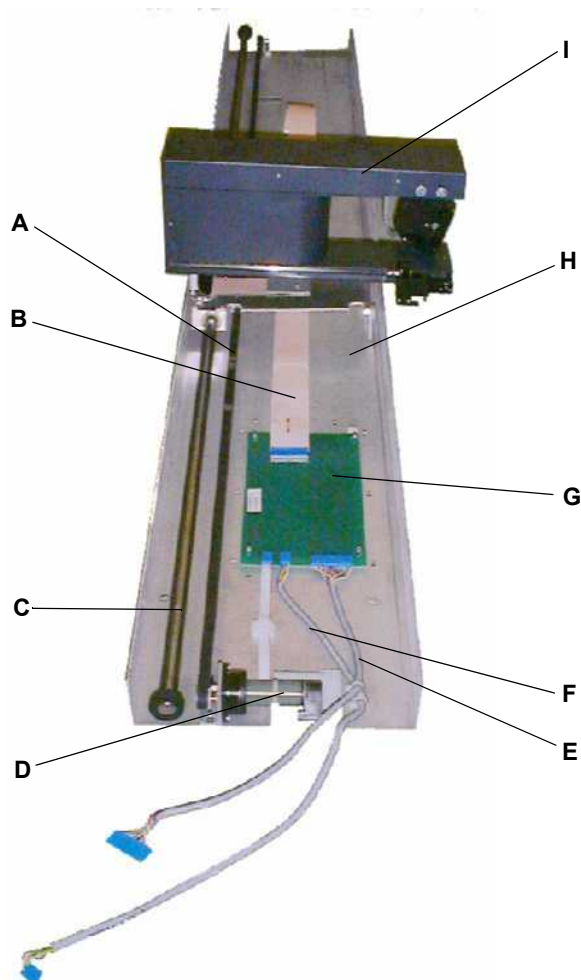

Fig. 8-126 PosID 2 module
- check for smooth and even motion of the PosID 2 scanner assembly (I).
- check for correct movement of the X-flex cable (B, see Fig. 8-126, Fig. 8-107).
- make sure that the X-shaft (C, see Fig. 8-126, Fig. 8-107) and the base plate (H) are clean.